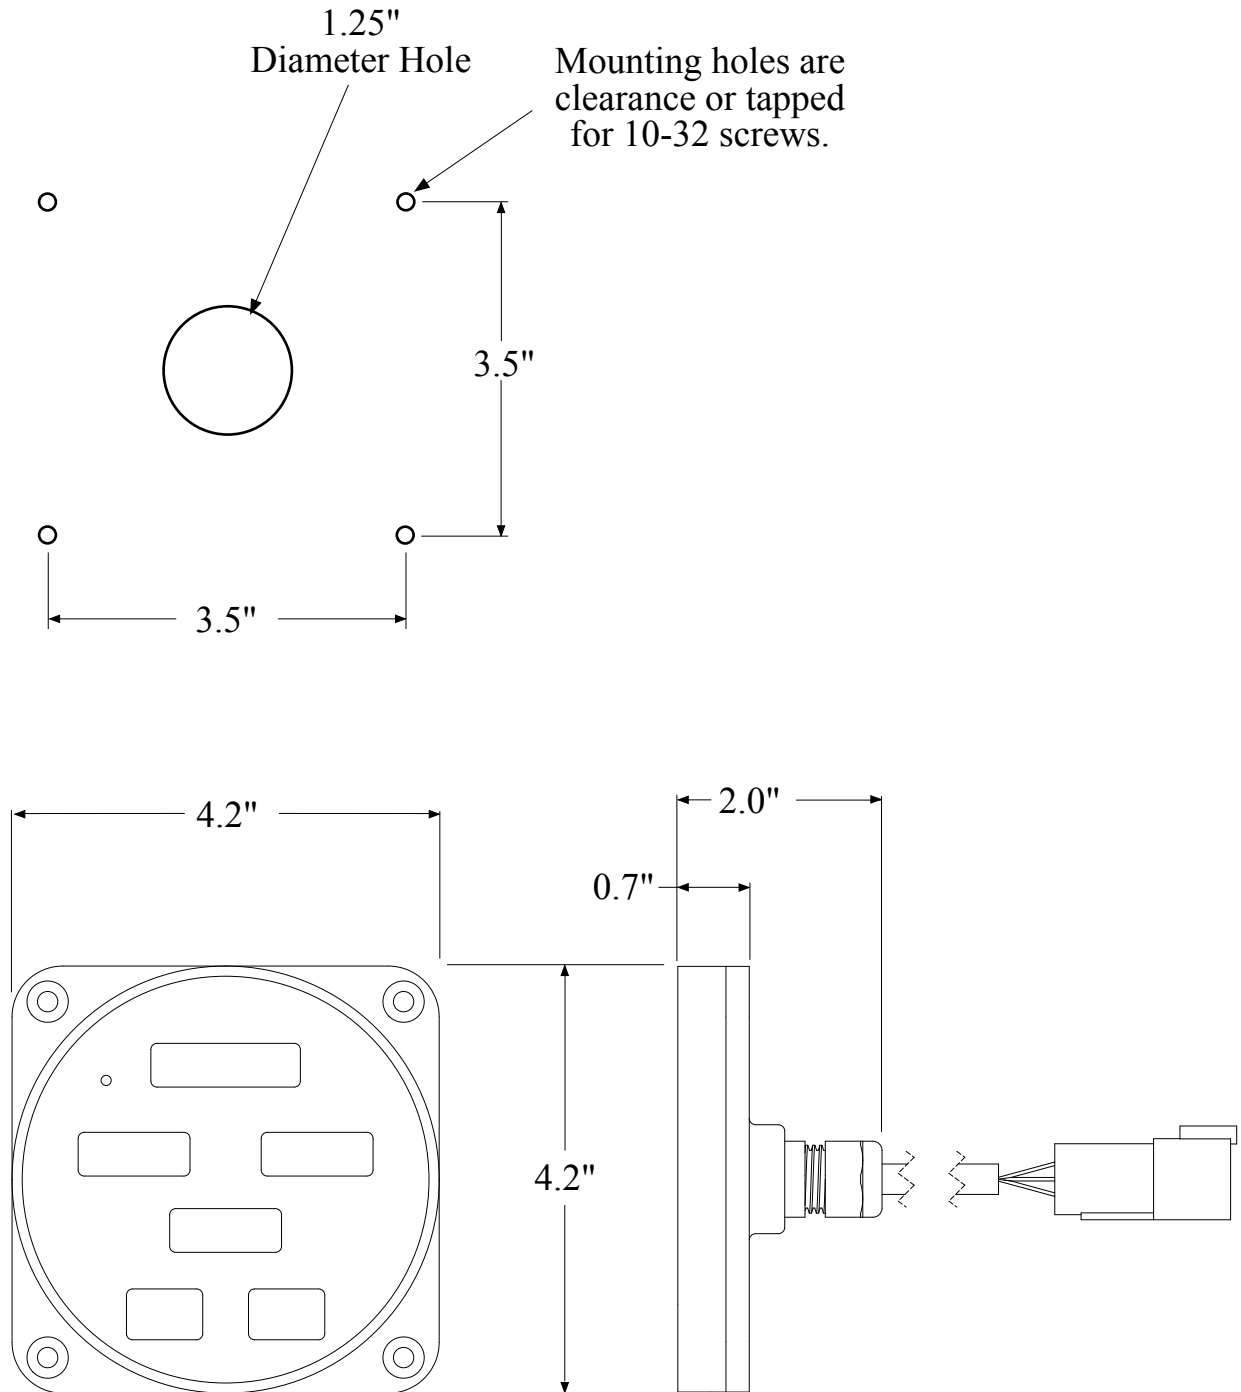

Figure 2. Display Module Mounting Dimensions
1. Measure and mark mounting location for display module cable and mounting screw holes. Make sure there is clearance behind the panel for the module and cables before drilling holes. Refer to Figure 2 for layout and dimensions.